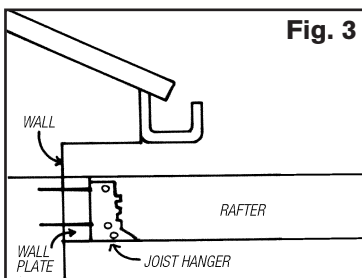

Fig. 3
1. You'll need a board or walling plate on which to attach the rafters (Fig. 3). If your home is brick, masonry anchors can be used to fix it to the house wall. With a weatherboard home, use coach screws but take care to fix the screws right through the wall into the studs.